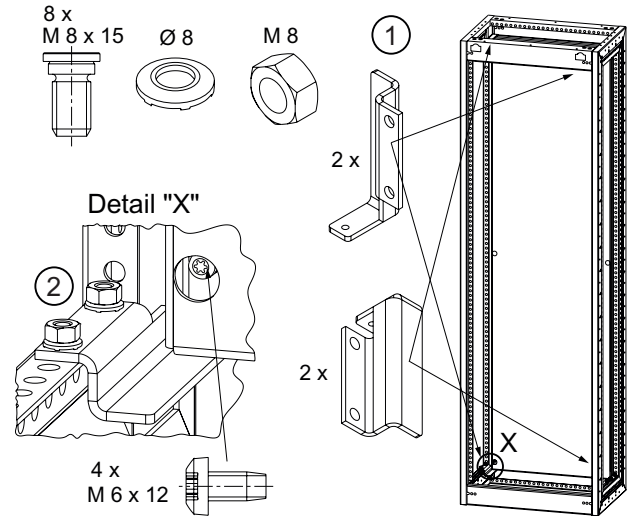

Fig. 9
- Mount the 4 mounting angles to the frame with M 8x15 threaded bolts, 8 contact washers and M 8 nuts. See Figure 9.